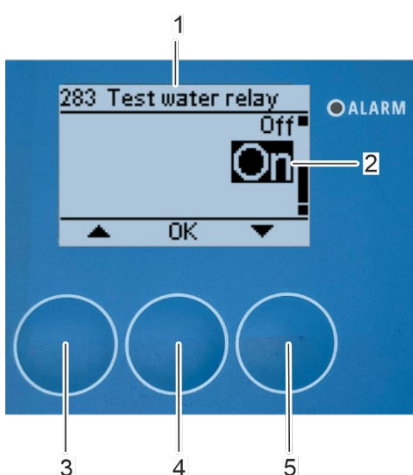

Fig. 149: Switch on water relay
⇒ The "283 Test water relay" submenu (Fig. 149/1) appears on the display.
3. Select "On" (Fig. 149/2) with the arrow keys [up] (Fig. 149/3) and [down] (Fig. 149/5).
4. Confirm the selection with [OK] (Fig. 149/4).